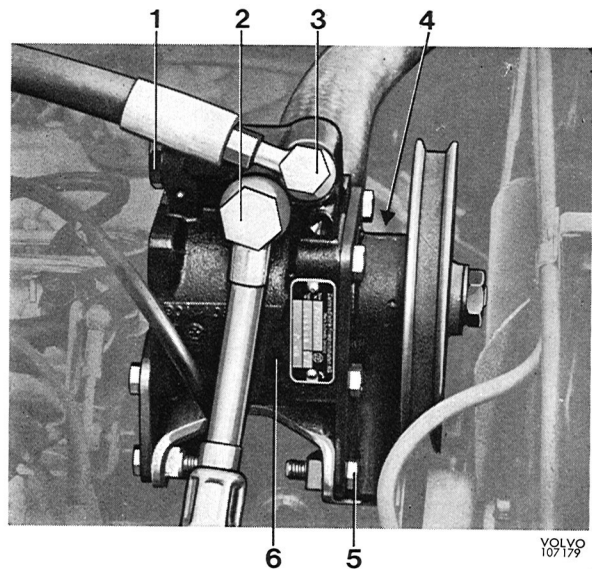

Fig. 6-103. Power pump
1. Clean round the connections (at 2 and 3, Fig. 6-103).
2. Disconnect the suction line (2) and collect the oil running out.
3. Remove the pulley nut. Loosen the tensioning bolt (4) so the belt slackens. Remove the pulley.
Concerning replacement of pump, supplement the new pump with brackets, pulley and other parts, see Fig. 6-103. When installing the pulley, the tolerances may be such that the pulley cannot be pressed on by hand. In these cases, press on the pulley with care. It must not be hammered on, otherwise the bearings might easily get damaged, this resulting in noise in the pump.
2. Install the attaching bolts and other components, see Fig. 6-103. Tension the drive belt so that it can be pressed in about 5 mm (3/16") halfway. Tighten bolts, connections and pulley nut.